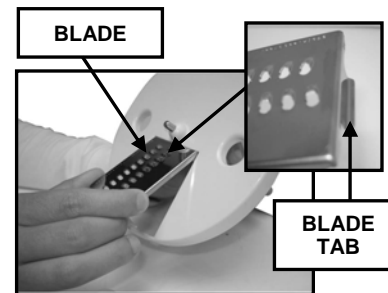

Fig. 5
- Select the desired blade. There are five (5) different blades to choose from:
- To attach the blade to the blade holder, take the blade holder in one hand and insert the blade tab first into the opening. (Fig. 5)